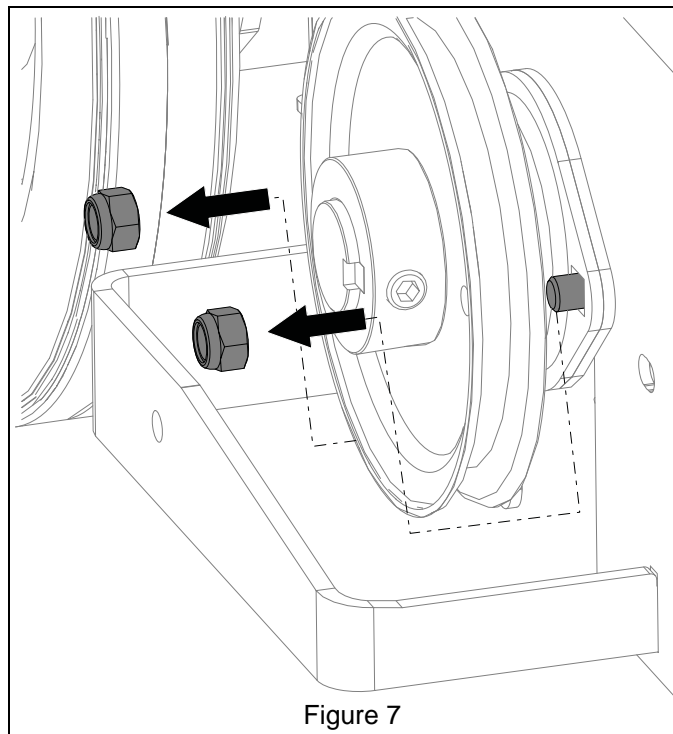

Figure 7
8. Remove and retain two hex nuts and round-head-square neck bolts from left flange bearing. See Figure 7.